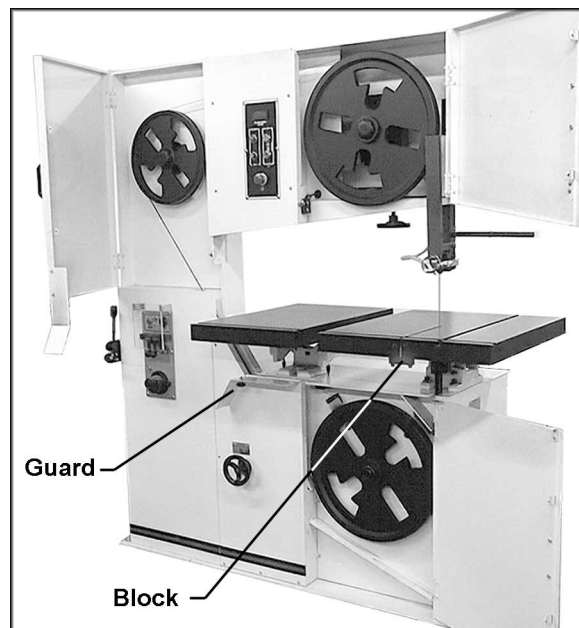

Figure 5
2. Open the upper and lower doors, and swing away the guard (Figure 5).
3. Remove the block from the front edge of the table (Figure 5).